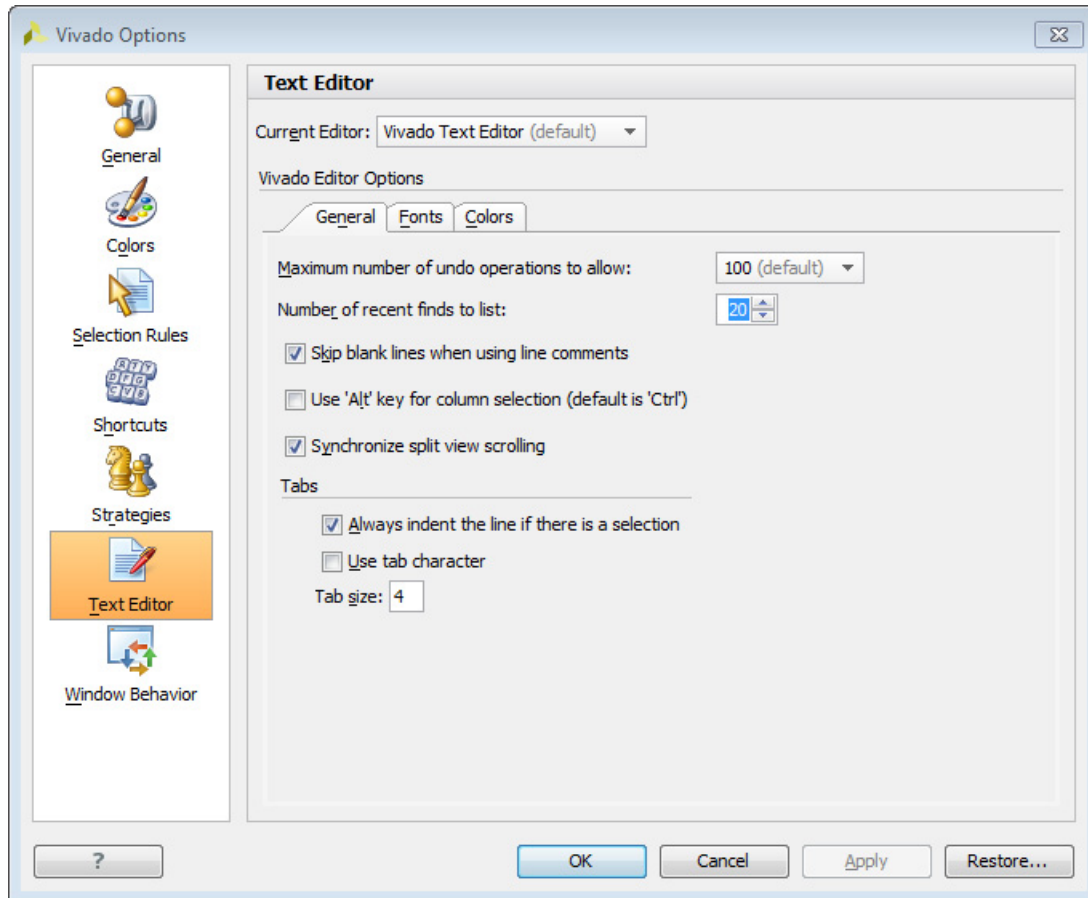

Figure 3-22: Vivado Options Dialog Box—Text Editor Page
2. In the Vivado Options dialog box Text Editor page (Figure 3-22), select an alternate editor from the Current Editor drop-down list.